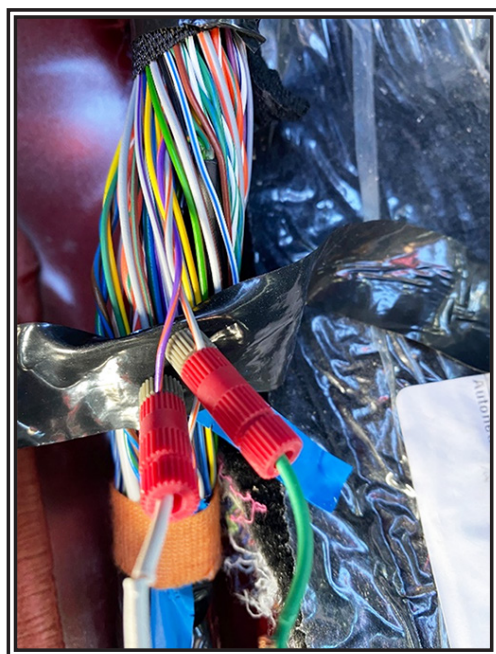

Figure 3
3. Attach the green wire from the OBD to the grey/orange wire using a posi-tap. Attach the white wire from the OBD to the purple orange wire using a posi-tap. See FIGURE 3.